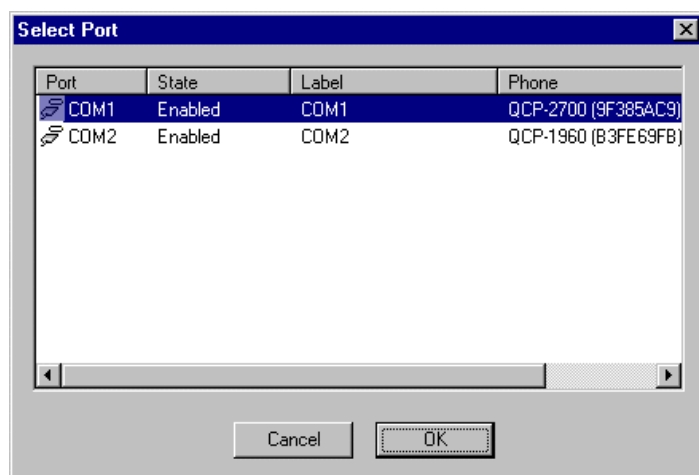

Figure 5-2 Select Port dialog
1. Click **Browse** located next to the Port description in the Software Download tab to display the Select Port dialog, as shown in Figure 5-2.